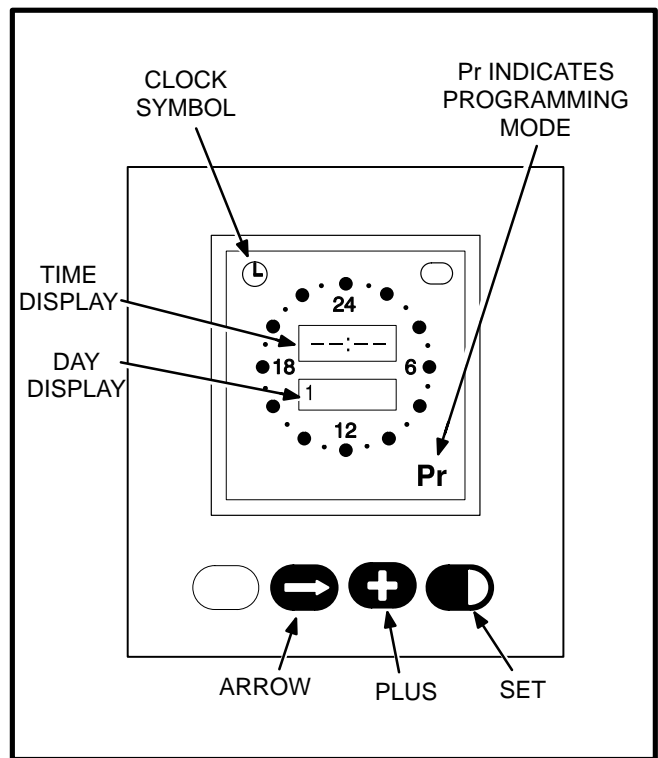

FIGURE 1. EXERCISER/CHANGEOVER CLOCK
A new exerciser/change-over clock is available that requires new programming instructions. If the exerciser/change-over clock in the transfer switch matches the one shown in Figure 1 of this supplement, follow the programming instructions provided in this supplement.
1. With the clock powered, press all three buttons simultaneously to reset the time. The time display area will show (- - : - -) and a small clock symbol will appear in the upper left-corner of the display. Refer to Figure 1.